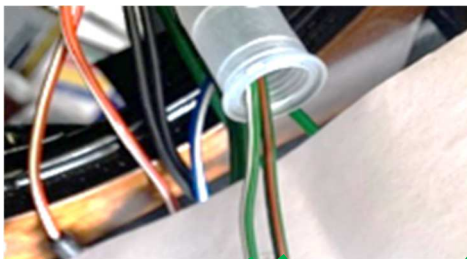
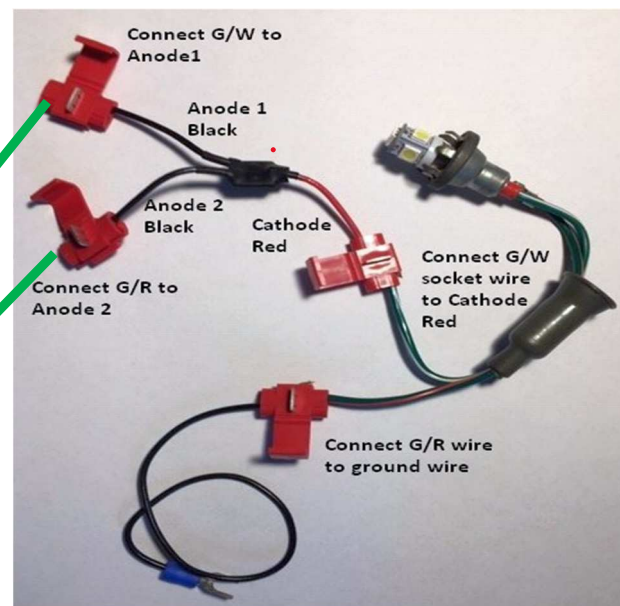

Fig 6
Fig 7
4. Connect wires as shown (it doesn't matter which colored wire goes to the black wires on Diode). Fig. 6 to Fig. 7
5. Connect red wire of diode, Fig. 7, to wire going into center base of socket. (Note: This is typically the Green/White but it may be Green/Red).